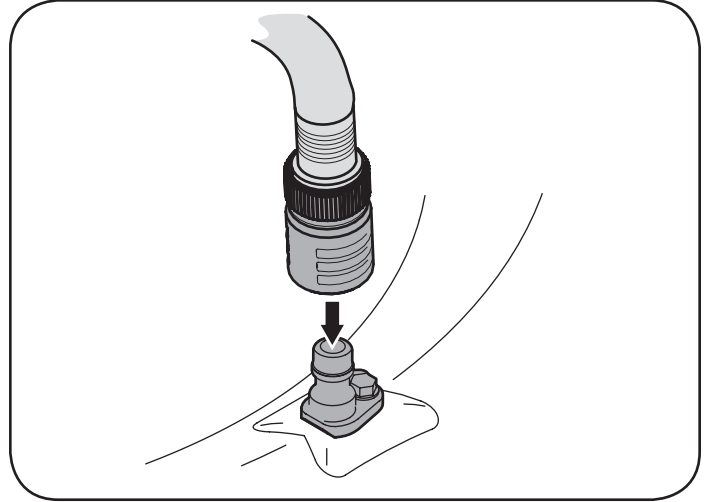

Figure 43
4. Attach the hose coupler to the water port on your deck's surface. See Figure 43.